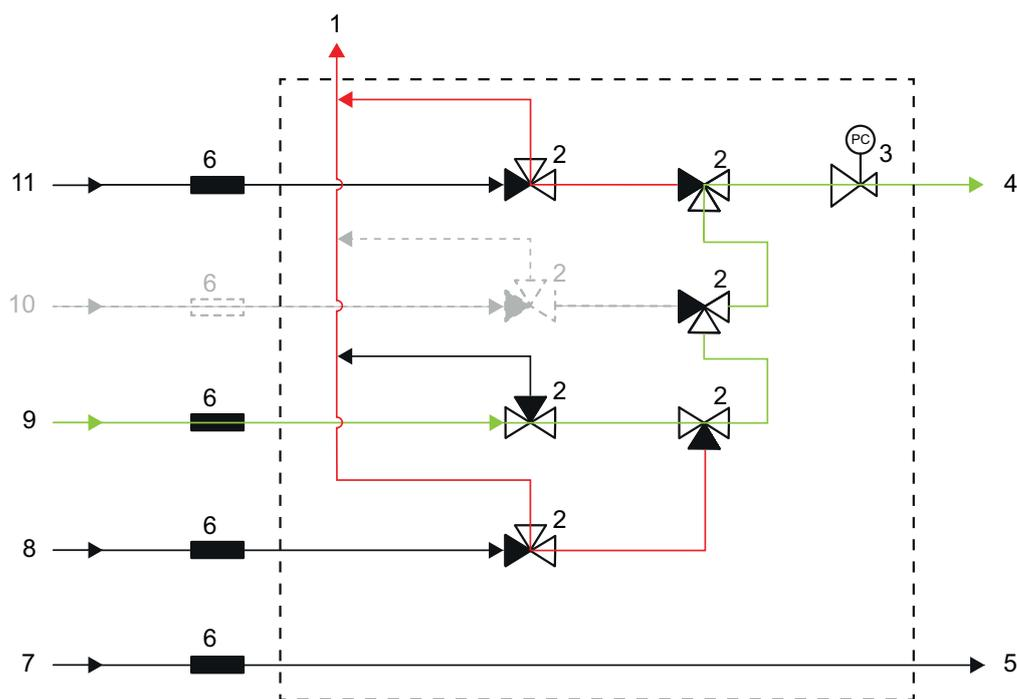
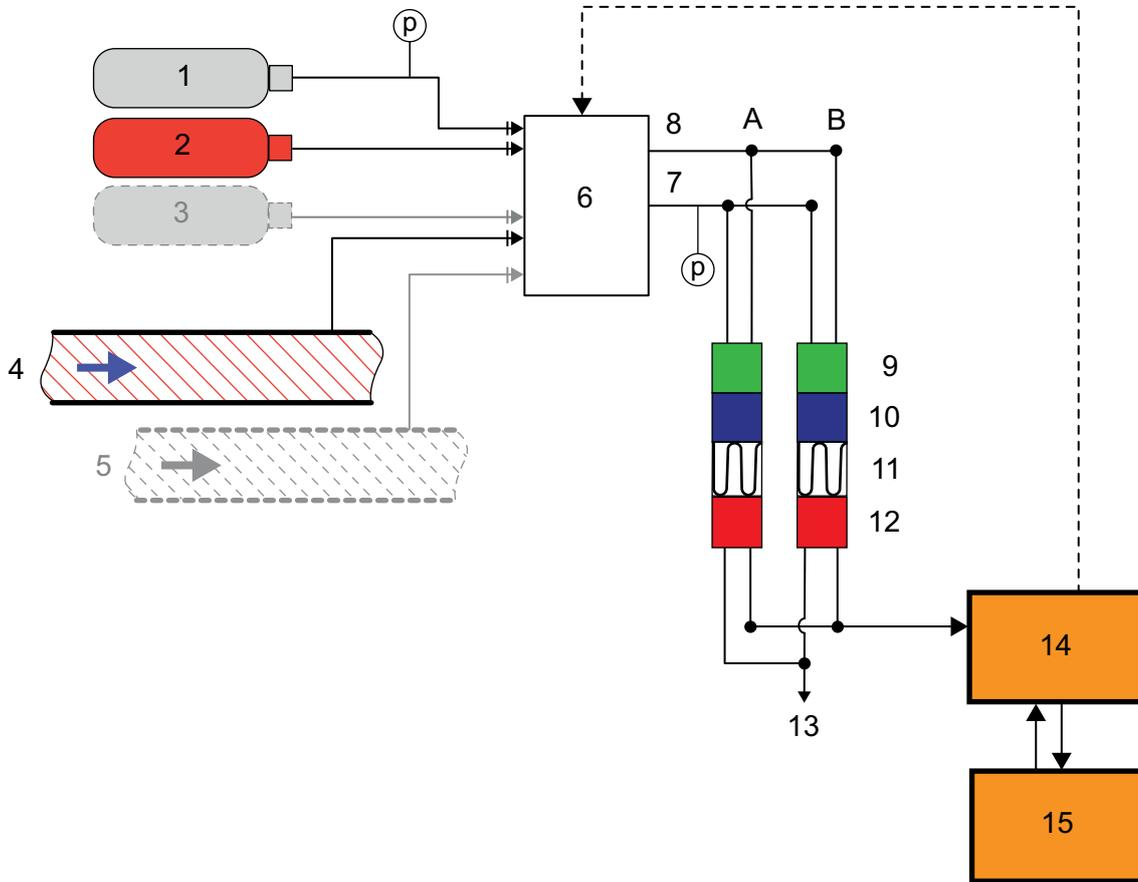

Fig. 6: Gas distribution (schematic diagram)
Fig. 7: Block diagram of the gas chromatograph
What is known as the ‘double block and bleed’ valve arrangement was chosen to avoid contamination of the selected gas stream by potential valve leakages (see fig. 6).
In fig. 6, the calibration gas is connected (shown in green) and it can be seen that the volumes between the valves of the other gas streams are vented to the atmosphere (shown in red). Any leaks that occur cannot, therefore, contaminate the analysis gas stream.
fig. 7 below shows the functional design of the gas chromatograph as a block diagram.
A gas sample is taken from the process line by means of a sampling probe (fig. 7, no. 4) and fed into the gas distribution (fig. 7, no. 6). Depending on the requirement (e.g. analysis or calibration), one of the following four gas inlets is connected towards column modules A and B by means of control valves (a ‘double block and bleed’ valve unit; see fig. 6):
- Sample gas 1 (fig. 7, no. 4)
- Sample gas 2 (optional) (fig. 7, no. 5)
- Calibration gas (fig. 7, no. 2)
- Reference gas or ext. Test gas (optional) (fig. 7, no. 3)
Before the sample to be analysed is fed to the column modules, a pressure reduction (fig. 6, no. 3) takes place to ensure a defined pressure in the column modules. (A gas dryer may also be provided as an option).
In addition, the carrier gas (fig. 7, no. 1) is supplied to the column modules via the gas distribution. The carrier gas pressure must be set directly at the carrier gas cylinder's pressure regulation, as no further pressure regulators are installed.
Although the individual column modules also have pressure regulation (fig. 7, no. 9) for setting the carrier gas pressure, its sole purpose is to keep the carrier gas pressure constant for the analysis so as to ensure consistent analysis results. The carrier gas pressure cannot be adjusted here.
A precisely defined amount of the gas to be analysed is fed to the separation columns (fig. 7, no. 11) by means of the injector (fig. 7, no. 10). This sample is passed through the separation columns by the carrier gas, which constitutes what is known as the 'mobile phase'.
A thermal conductivity detector (fig. 7, no. 12) detects the exit of the components. A signal of varying length and height is thus generated for each component (a 'peak'). The area under the signal curve is a measure for the corresponding mole fraction.